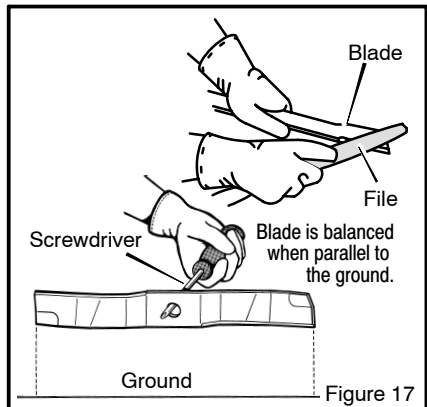

Figure 17
1. Sharpen the blade two times a year or every 25 hours (Figure 17).
4. Sharpen the **blade** with a **file**. Make sure you keep the original bevelled cutting edge (Figure 17).